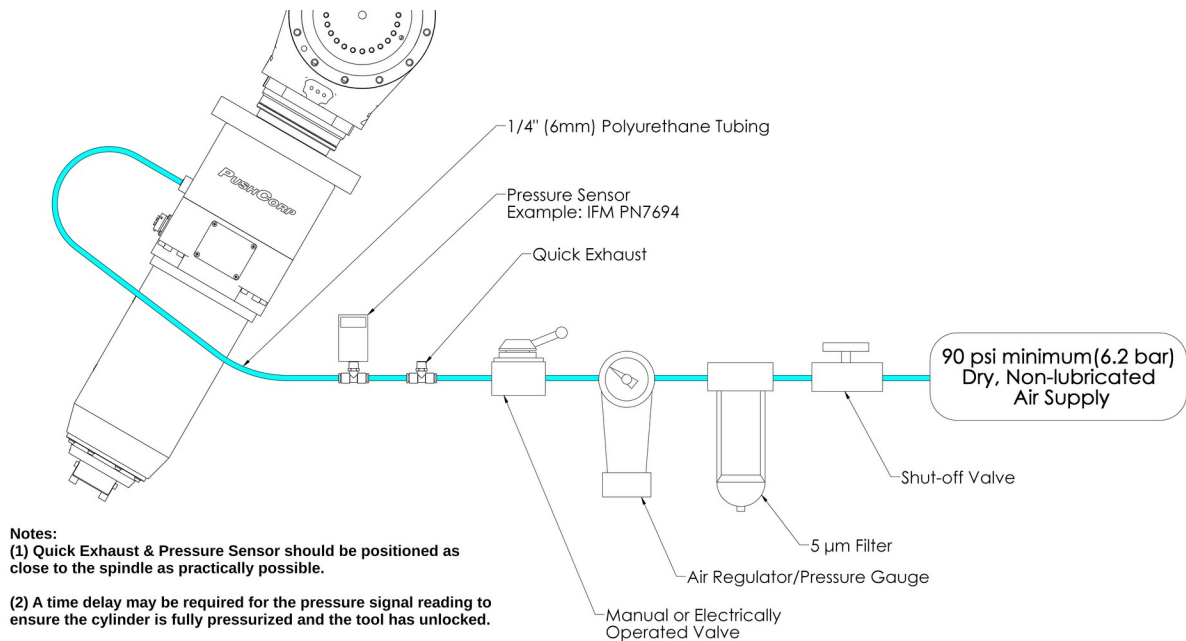

Figure 7: Pneumatic Connections
The pneumatic supply system should be configured as shown in Figure 7. A manual or electrically operated valve may be used to energize the STC1015 for toolholder release, but the valve must exhaust **ALL** line pressure when unenergized. An electrically operated pneumatic valve is normally used in an automated work cell. PushCorp highly recommends the installation of a Pressure Switch in the Supply Line to the STC1015. This switch should not allow the STC1015 to start if there is any pressure in the Supply Line. Pressure in the line will cause internal components to come into contact. This will either cause the motor not to spin, or cause very high internal friction, eventually friction welding components together.
5. Using a pressure sensor, such as IFM PN7694, verify that you have achieved at least 90 psi, again not to exceed 100 psi (refer to Figure 7 for connection set up)